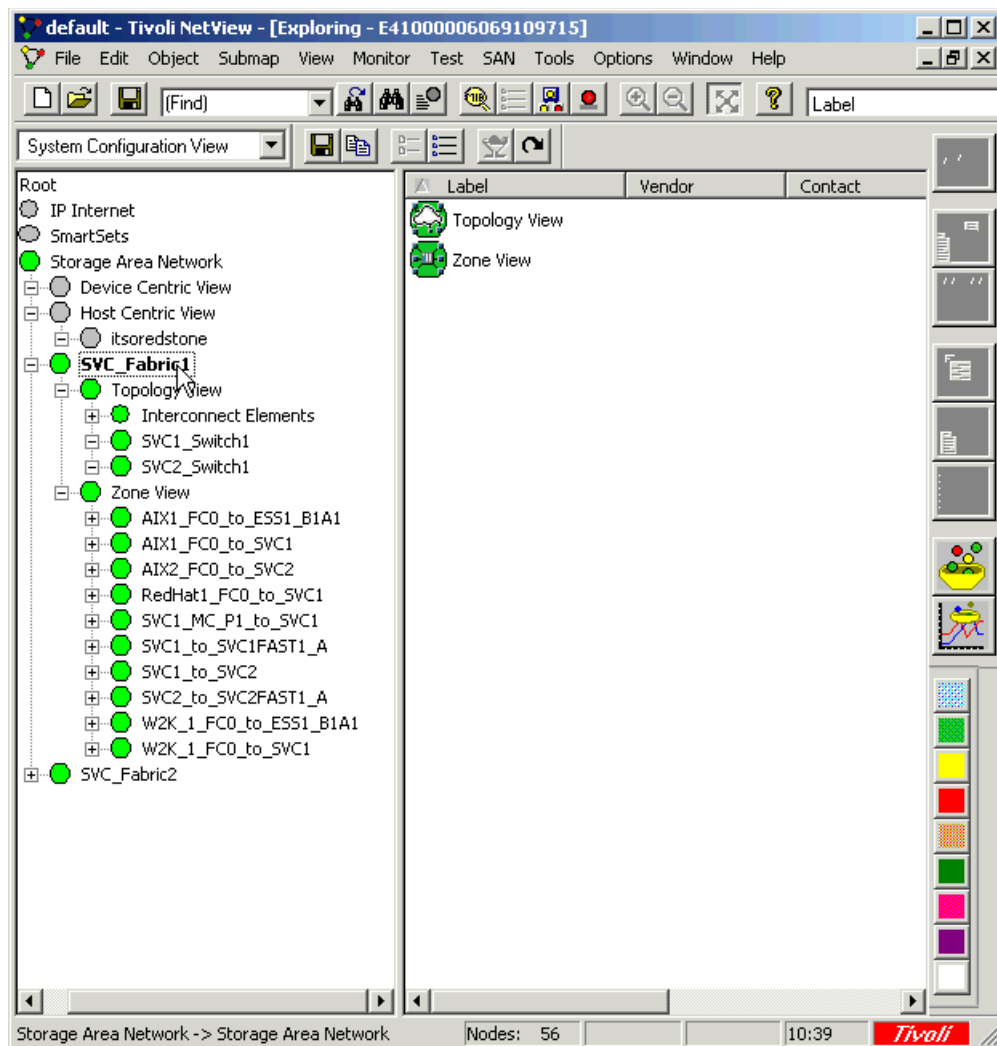

Figure 14-12 Fabric view
7. The Explorer panel (Figure 14-12) opens to display all the devices, topology, and zones in a tree format. The different views of the fabric components can then be shown, such as the Fabric View.